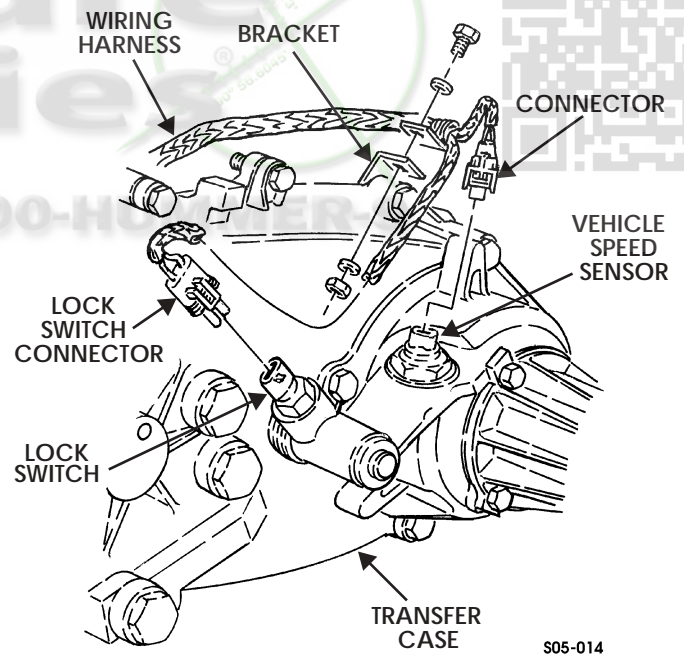

Figure 5-69: Vehicle Speed Sensor and Lock Switch Harness
14. Connect connector to vehicle speed sensor on transfer case (Figure 5-69).